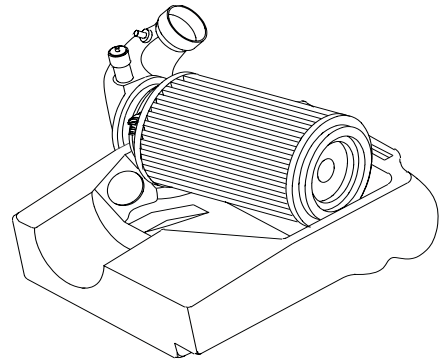

Fig. 2
4. Insert the filter / intake elbow assembly into the lower half of the airbox. (Fig. 2)